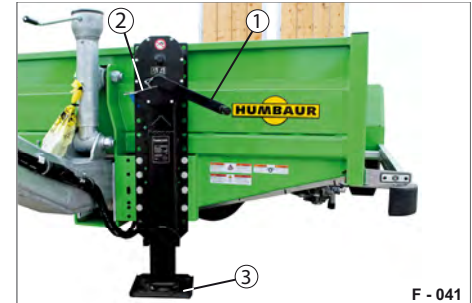

Fig. 22 Geared support winch
- ▶ Crank the support foot (Fig. 22/3) fully down to the ground.